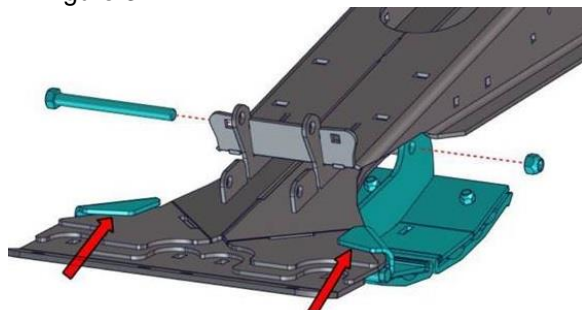

Figure 317
3. There are skid shoe extensions that can be used to gain more height for the cutterbar. Figure 317